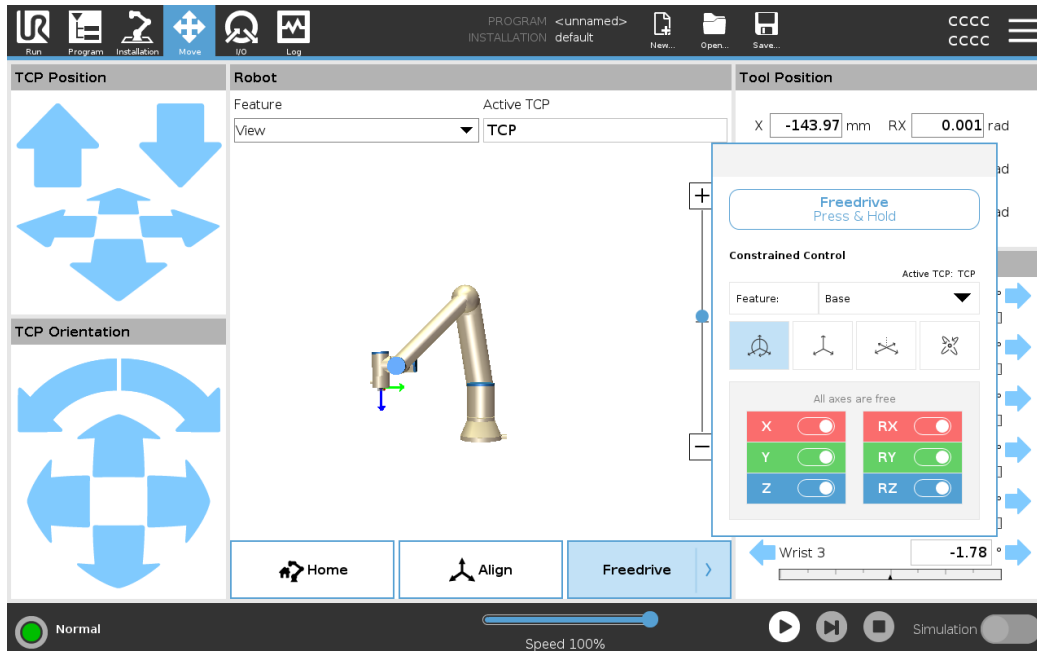

Figure 5.10 – Custom Settings
8. Press on **Freedrive** in the **User Interface (UI)**.
- For this exercise, you will use the **Freedrive Button** on the UI to allow the robot to be moved manually. There are four modes available. Use the **Custom** settings in Figure 5.10 to move the robot manually.